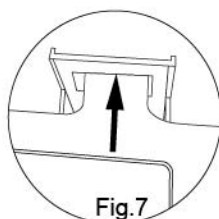

Fig.7
• **CHANGING THE SHADE CARTRIDGE** (See fig.7).